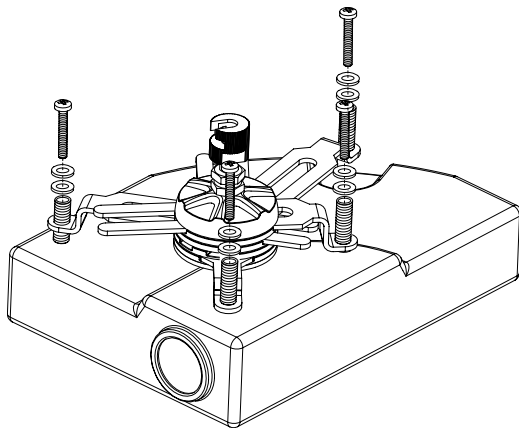

Figure 1
- ① Place the Aero Universal Projector Mounting Bracket over projector mounting holes. If bracket arms cannot reach all mounting holes, loosen bracket by unscrewing centerpiece, and replacing bracket arms with longer size arms (included).
- ② Insert and adjust threaded pipe so that, when they are flush with the surface of the projector, the universal bracket is horizontally level.
- ③ Insert and tighten screws (provided) appropriate for projector mounting holes (see Fig. 1).